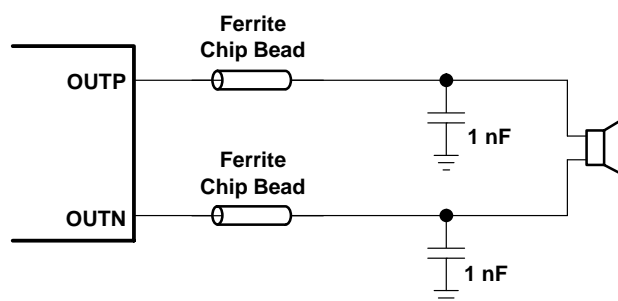

Figure 34. Typical Ferrite Chip Bead Filter (Chip bead example: Fair-Rite 2512067007Y3)
- Output filter — The ferrite EMI filter (Figure 34, page 23) should be placed as close to the output terminals as possible for the best EMI performance. The LC filter (Figure 33, page 23) should be placed close to the outputs. The capacitors used in both the ferrite and LC filters should be grounded to power ground.